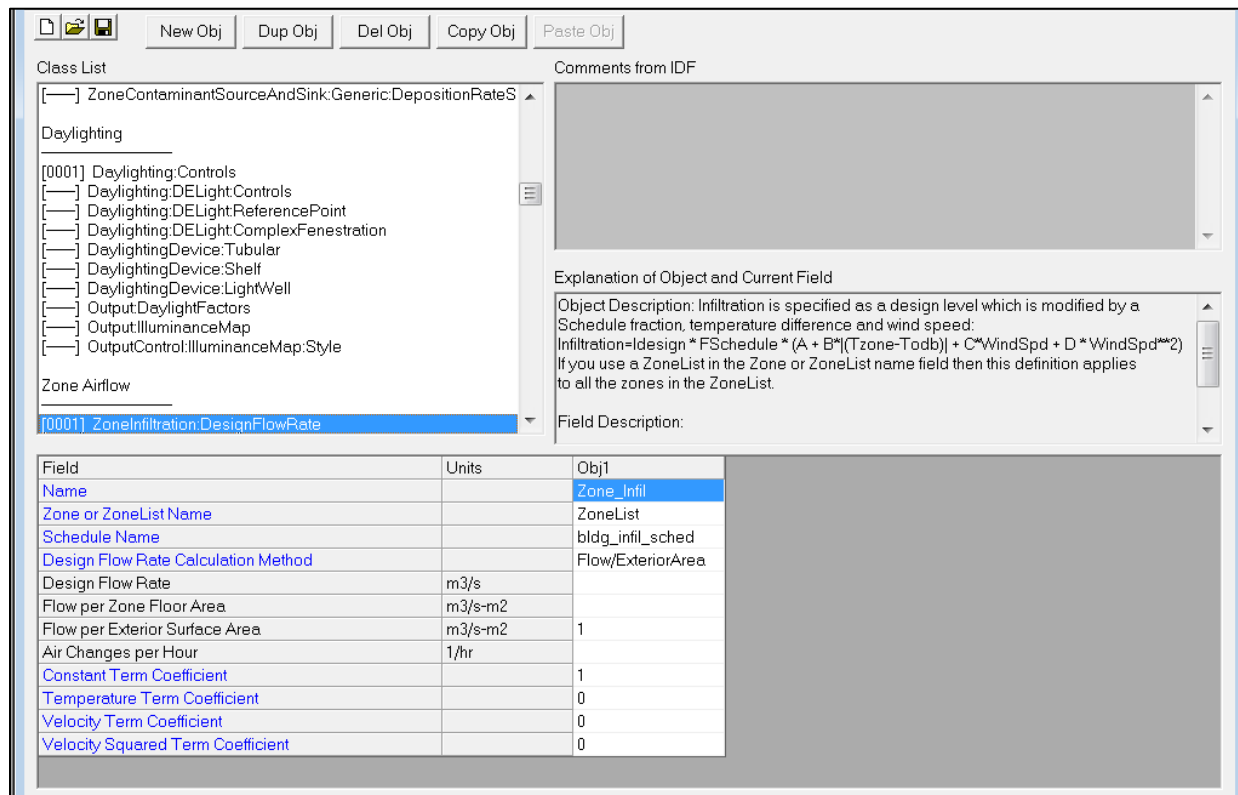

Figure 28. Creating new ZoneInfiltration:DesignFlowRate object in EnergyPlus project file
- c. Scroll or use the Find function (Ctrl+F) to go to the ZoneInfiltration:DesignFlowRate object (Figure 28). Delete any existing ZoneInfiltration:DesignFlowRate objects. Press the “New Obj” button. In the new ZoneInfiltration:DesignFlowRate object, input the following (the inputs are also in the partial .idf file):